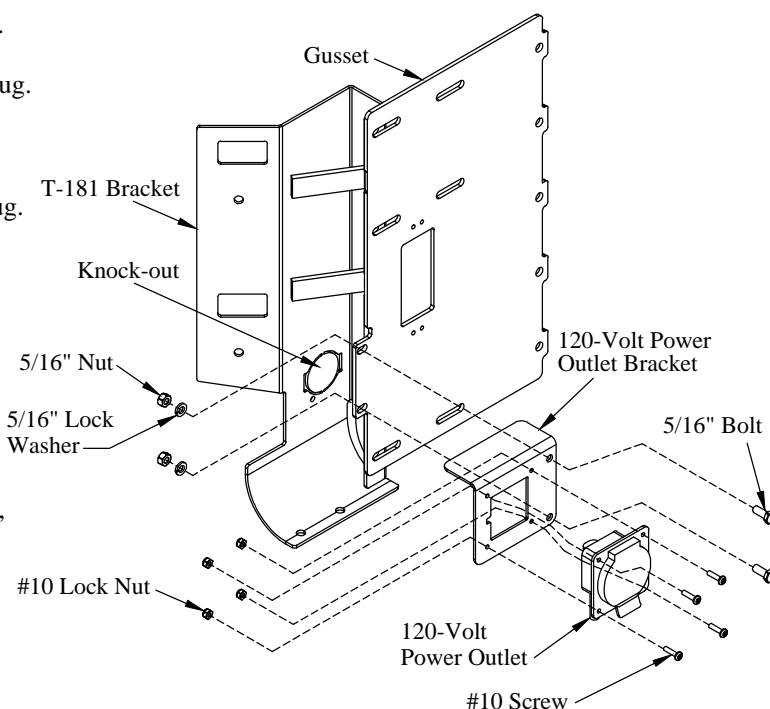

Figure 17: 120-volt power outlet bracket.
19. **Install** the 120-volt power outlet bracket on the passenger side gusset (Figure 17).
21. **Install** the 120-volt power outlet into the bracket with provided four (4) #10 screws and lock nuts (Figure 17).